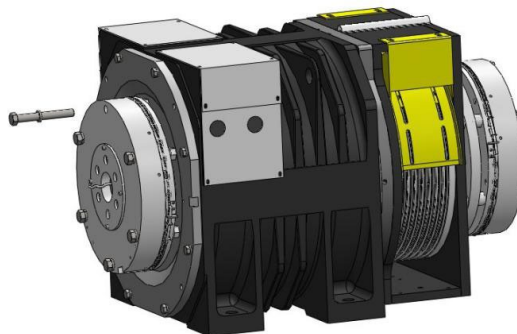

Figure 43 Remove M16x130 bolt
4. Remove the bolt M16x165 with open end wrench (24mm). See Figure 43.